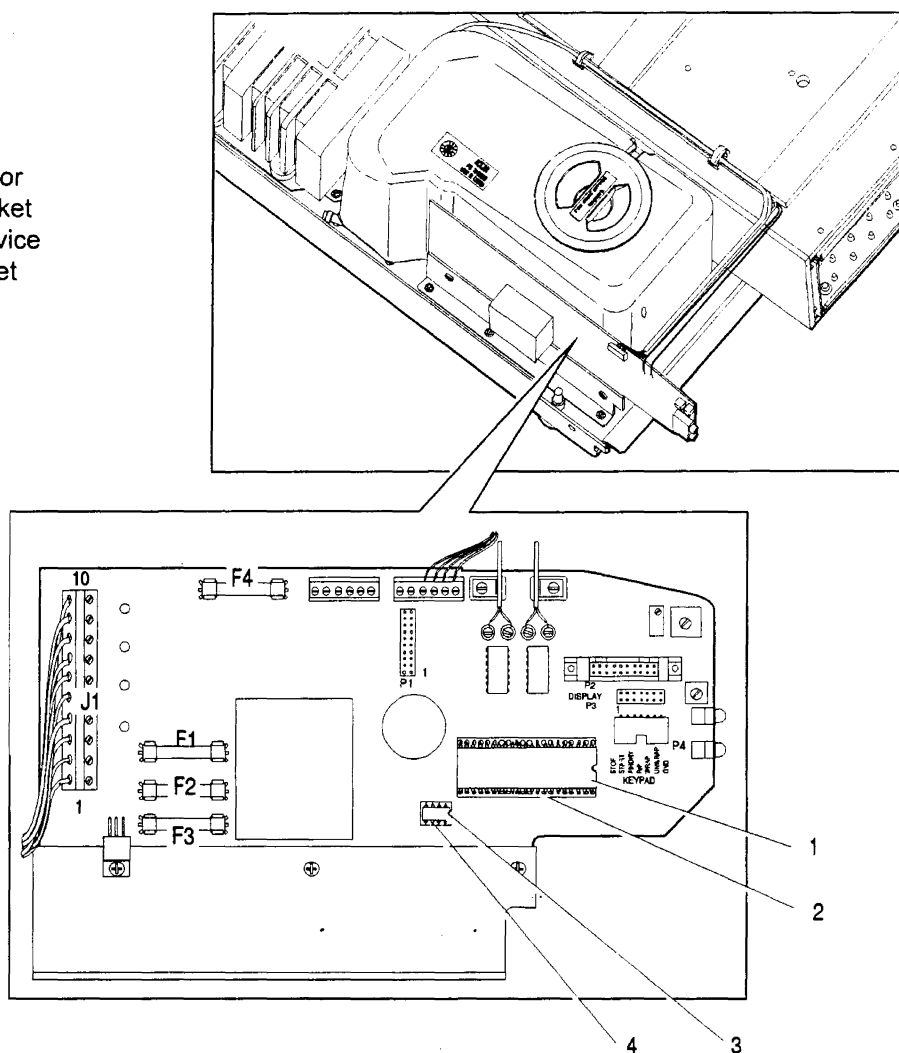

Figure 1
To remove the Microprocessor (1) and preprogrammed EEPROM device follow these steps (see Figures 1 and 2):
To replace the microprocessor, follow these steps (see Figures 1 and 2):